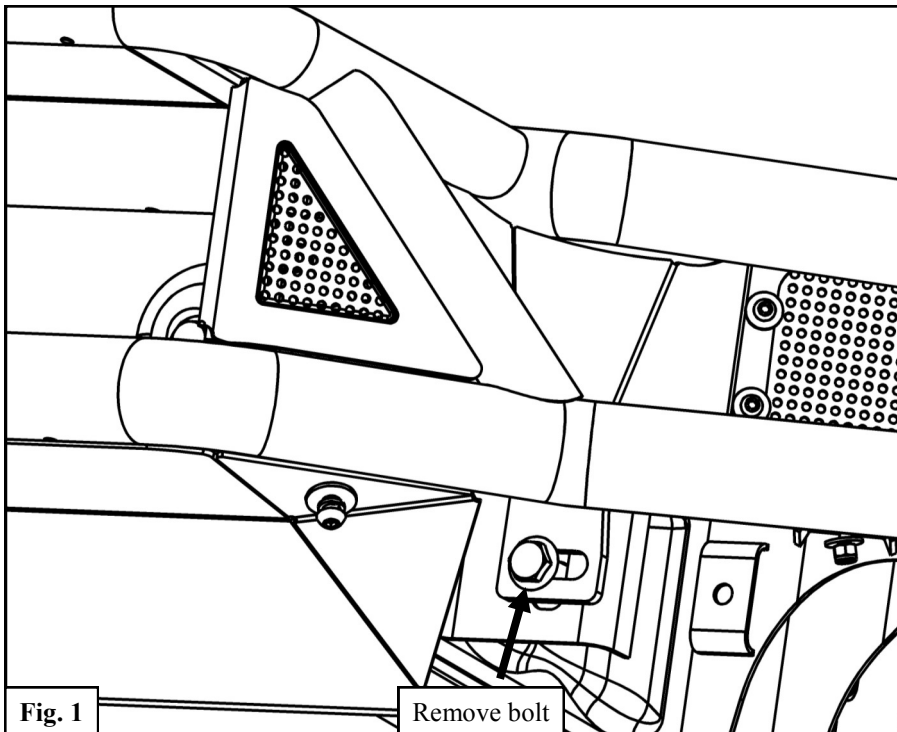

Fig. 1
2. Remove the bolt indicated in **Figure 1** on the driver side of the vehicle along with the attached hex nut, split lock washer, and flat washer. Repeat procedure on the passenger side. *Note:* Driver's side shown.